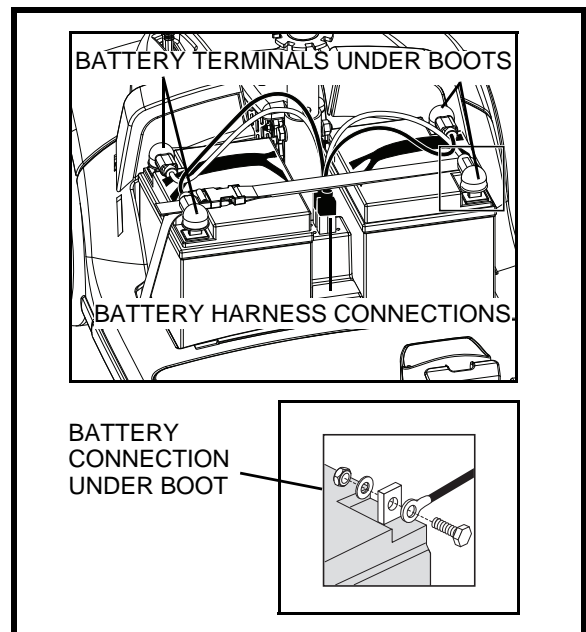

Figure 12. Battery Removal/Installation
3. Disconnect the battery harnesses by depressing the tabs and then pulling them straight up. **See figure 12.**
4. Disconnect the battery cables from the battery terminals by sliding back the terminal boots and unscrewing the nut from the bolt. **See figure 12.**